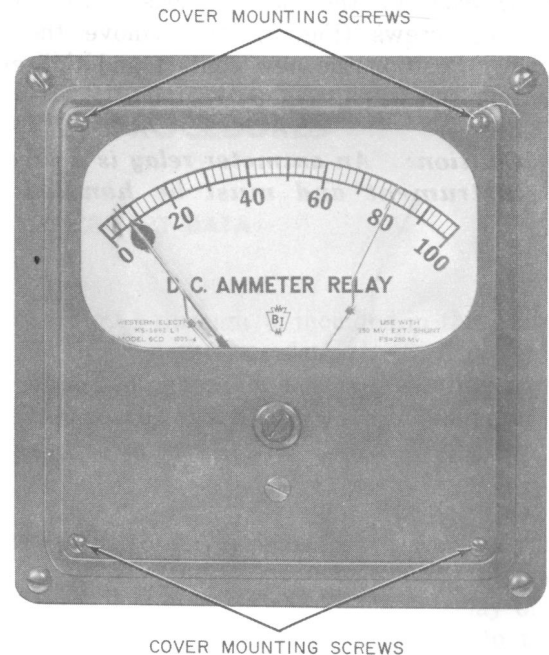

Fig. 4—Typical Ammeter Relay
**3.04** Remove the front cover by removing the cover mounting screws (Fig. 4). Loosen four mounting screws on inside of front cover to remove the glass. Insert new glass, position the lugs over the edges of the glass, and tighten the screws.